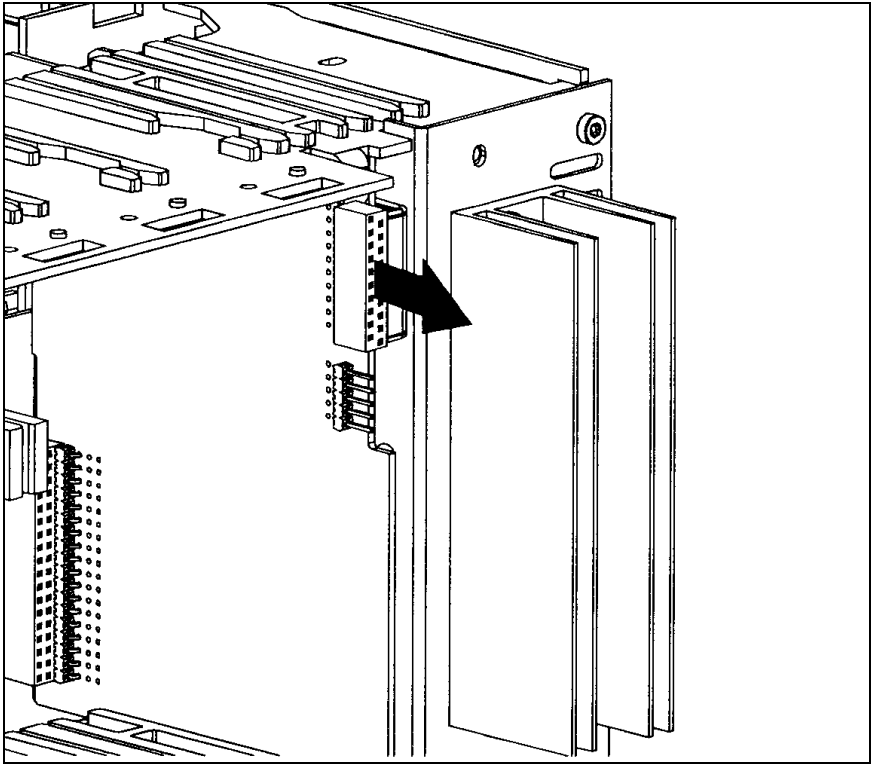

Figure 2-8
- 17. Disconnect the flat cable from the CPU board. (See Figure 2-8)